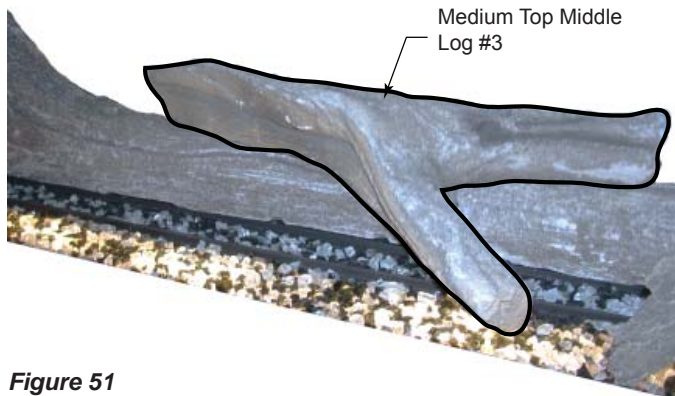

Figure 51
- Place medium top middle log #3 across the rear logs by aligning the two (2) recesses on the bottom of the log with the key protrusions on each of the rear logs. The front branch of the top log may rest on top of the decorative colored glass. *Figure 51*